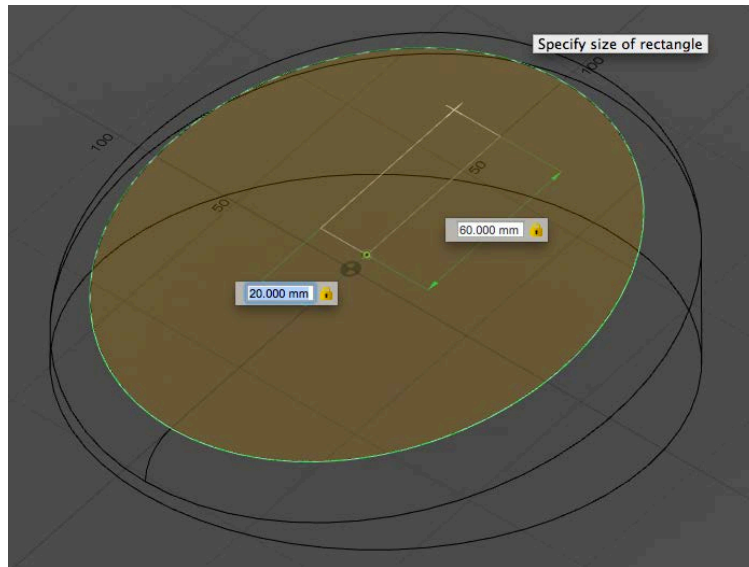

Fig. L03
- Draw a box of the center of the face with Length 20mm and Width 60mm, and press Enter (Fig. L03).